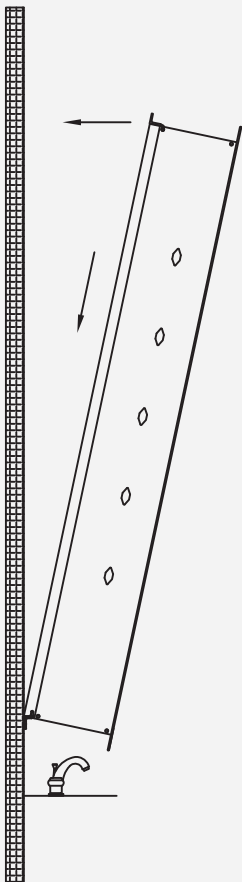
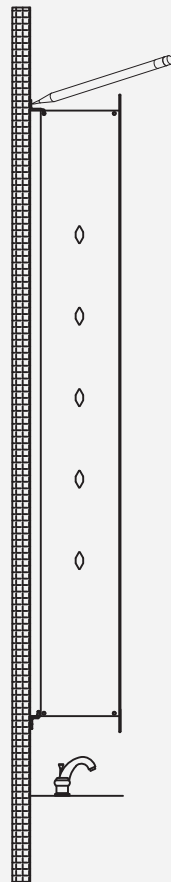

Fig 11
Fig 12
5. Place cabinet into wall bracket (Fig 11). Mark hole locations of z-clips (Fig 12). When determining location, it is recommended that at least one z-clip be located at a stud. Detach cabinet and drill 8mm hole if needed for anchor, and place in anchor in hole.